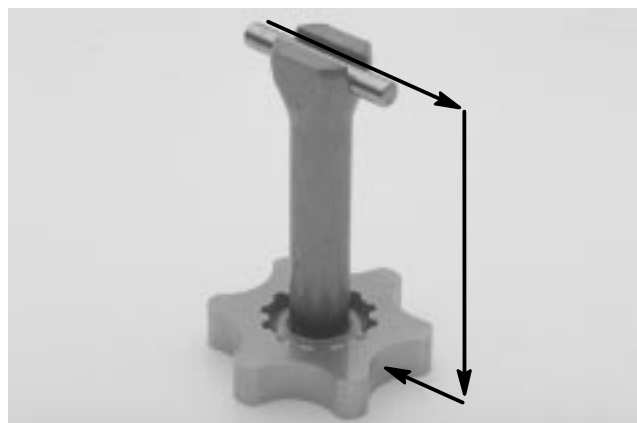

Figure 81
**IMPORTANT: The gear wheel fits into the cardan shaft from one direction only. The tooth base on the wheel should be positioned in relation to the shaft slot (Fig. 81).**